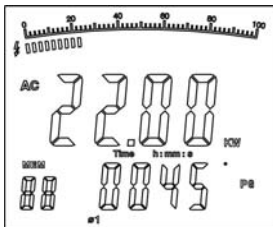

Figure 7
1. Press **SEL** to choose first phase Ø1 , see figure 7. The double displays show the active power kW value and the PG value of the second phase 1.